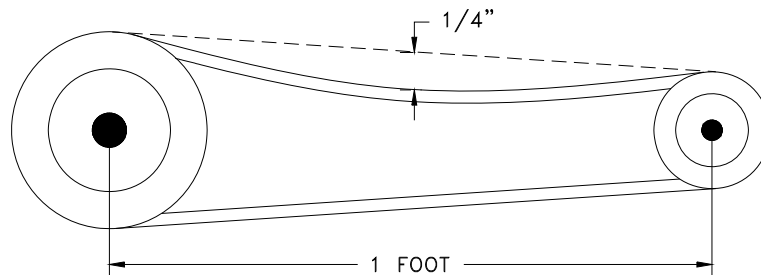

Fig. 7 – Belt & Pulley Tension
2. Slide the motor plate back until proper tension is reached. For proper tension a deflection of approximately $\frac{1}{4}$ " per foot of center distance should be obtained by firmly pressing the belt. Refer to Fig. 7.